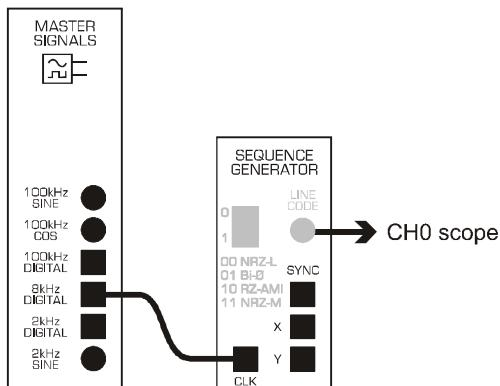

Figure 29: "adjust\_SG\_settings" wiring diagram
1. Use patching cords to wire up DATEx blocks according to the wiring diagram in Figure 29.